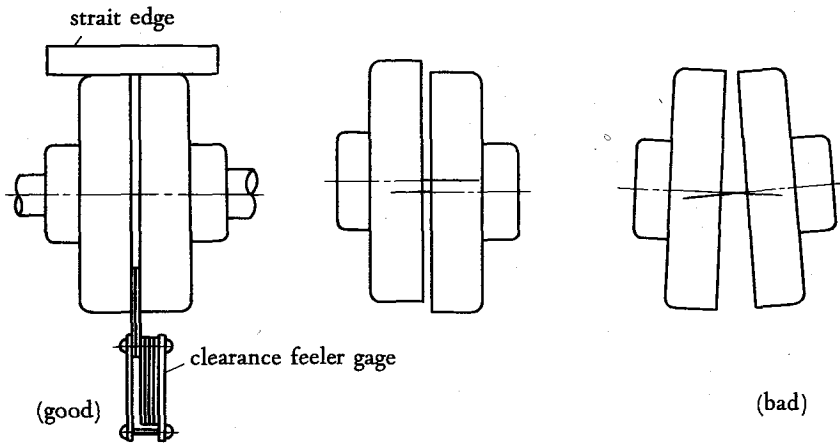

Fig. 2
- (2) Adjust both shaft centers to align with each other until you can confirm the alignment from the circumference of the opposite flange and also by the clearance between the end faces of the flanges, and then couple the two shafts together. (Fig. 2)